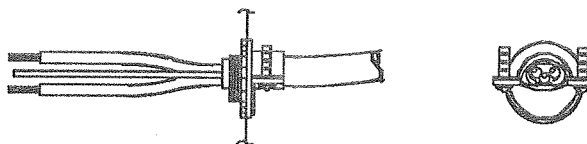

FIGURE 10
E. Tighten the strain relief clamp to secure the 115 V.A.C. supply wire. **DO NOT OVERTIGHTEN** (see Figure 10). Reinstall the selector switch control box cover.